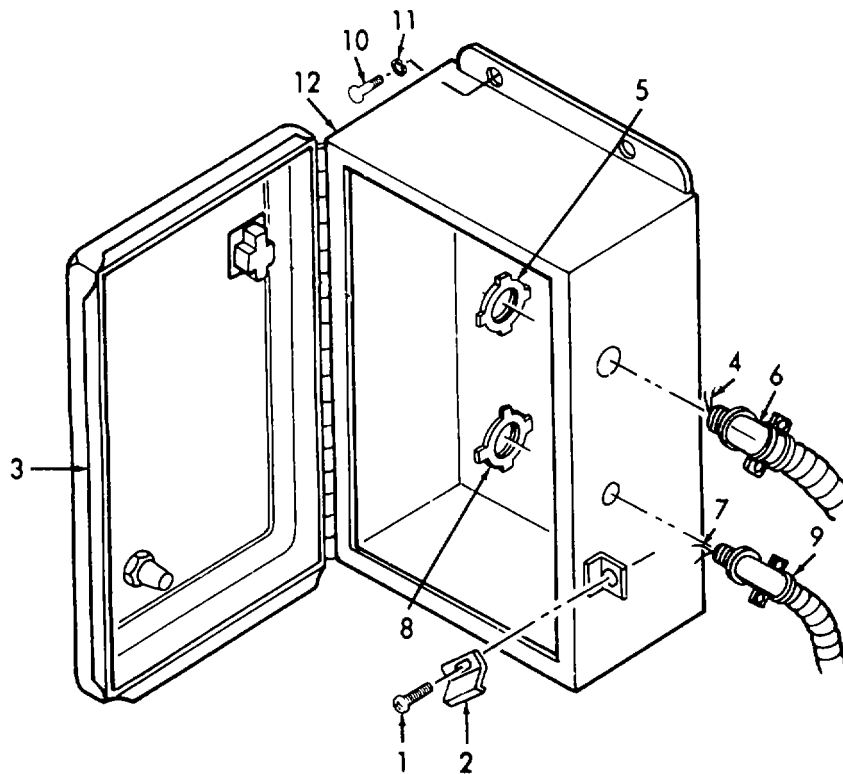

Figure 3-3. Motor Starter Box, Removal.
a. *Removal.* (Refer to Figure 3-3).